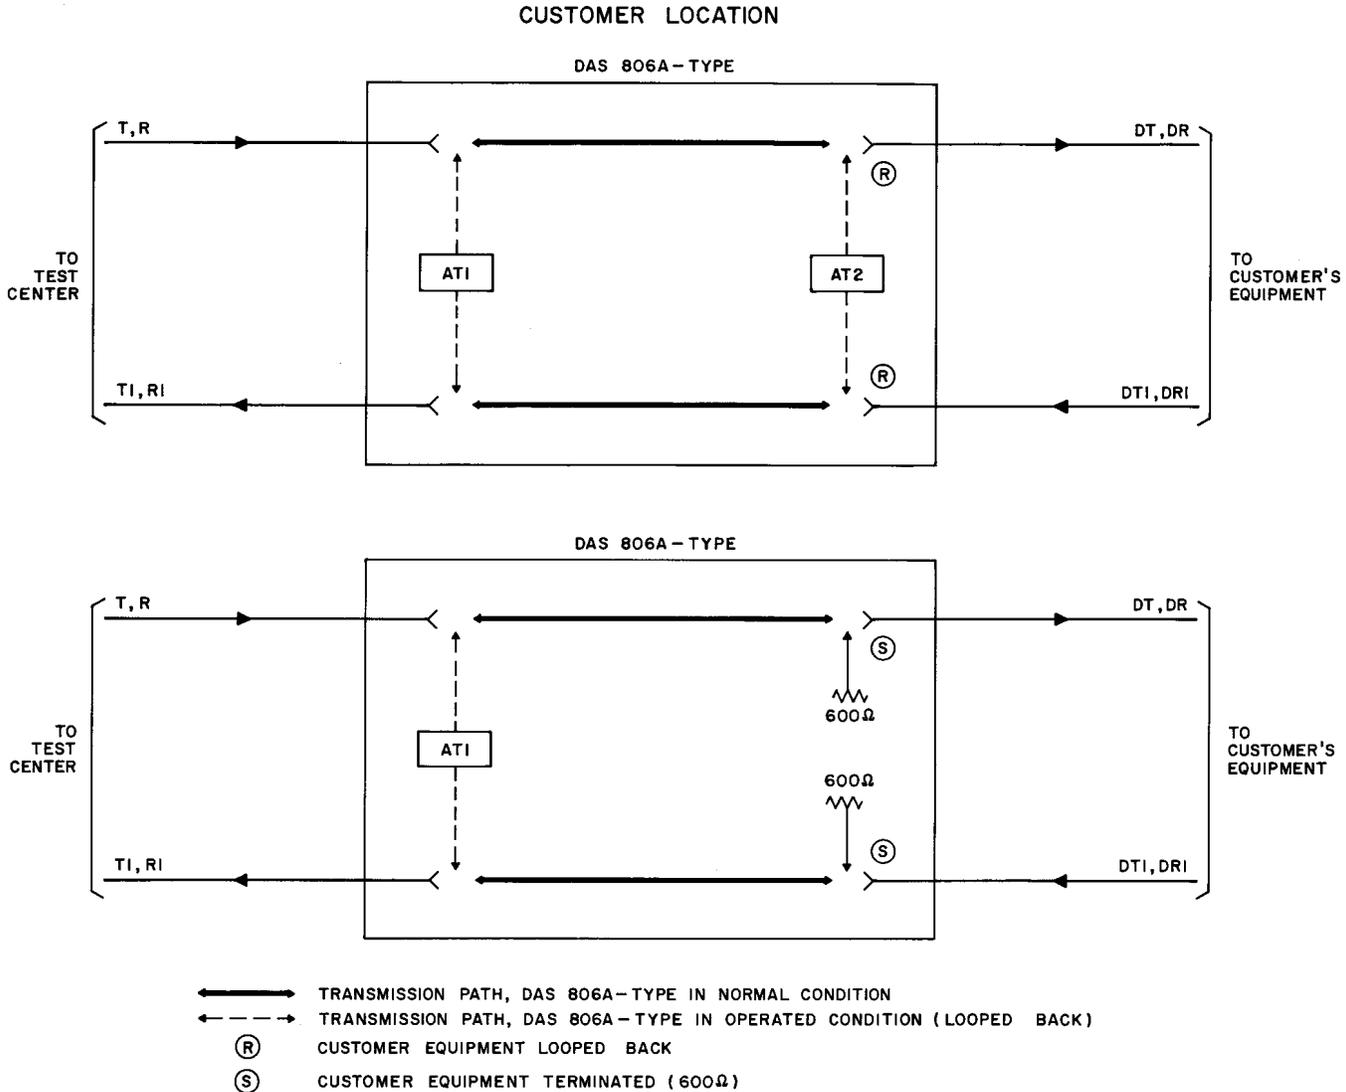

Fig. 2—Data Auxiliary Set 806A-Type—Transmission Options Under Control of Test Center
1.08 Option N permits the customer or telephone employee to test the equipment by depressing the LOC key. This lights the LOC lamp and operates the DAS to permit testing of the station equipment, on a loop-back basis, through pad AT2 (Fig. 2). Operation of the OFF key on the DAS releases the test connection and returns the facility to normal. During the time the customer or telephone employee is performing tests, the four-wire facility is terminated in 600 ohms towards the test center. Option M supplements but does not remove features of option N; it provides for remote control by the customer or telephone employee.
Requirement: TMS reads approximately calculated 1000 Hz loop-back loss *plus* any AT1 pad loss in DAS 806A1 (Fig. 2).
Requirement: Five to ten seconds after the tone is applied, TMS reads approximately the calculated 2800 (2400) Hz loop-back loss *plus* any AT1 pad loss in the DAS. (See Fig. 2.)